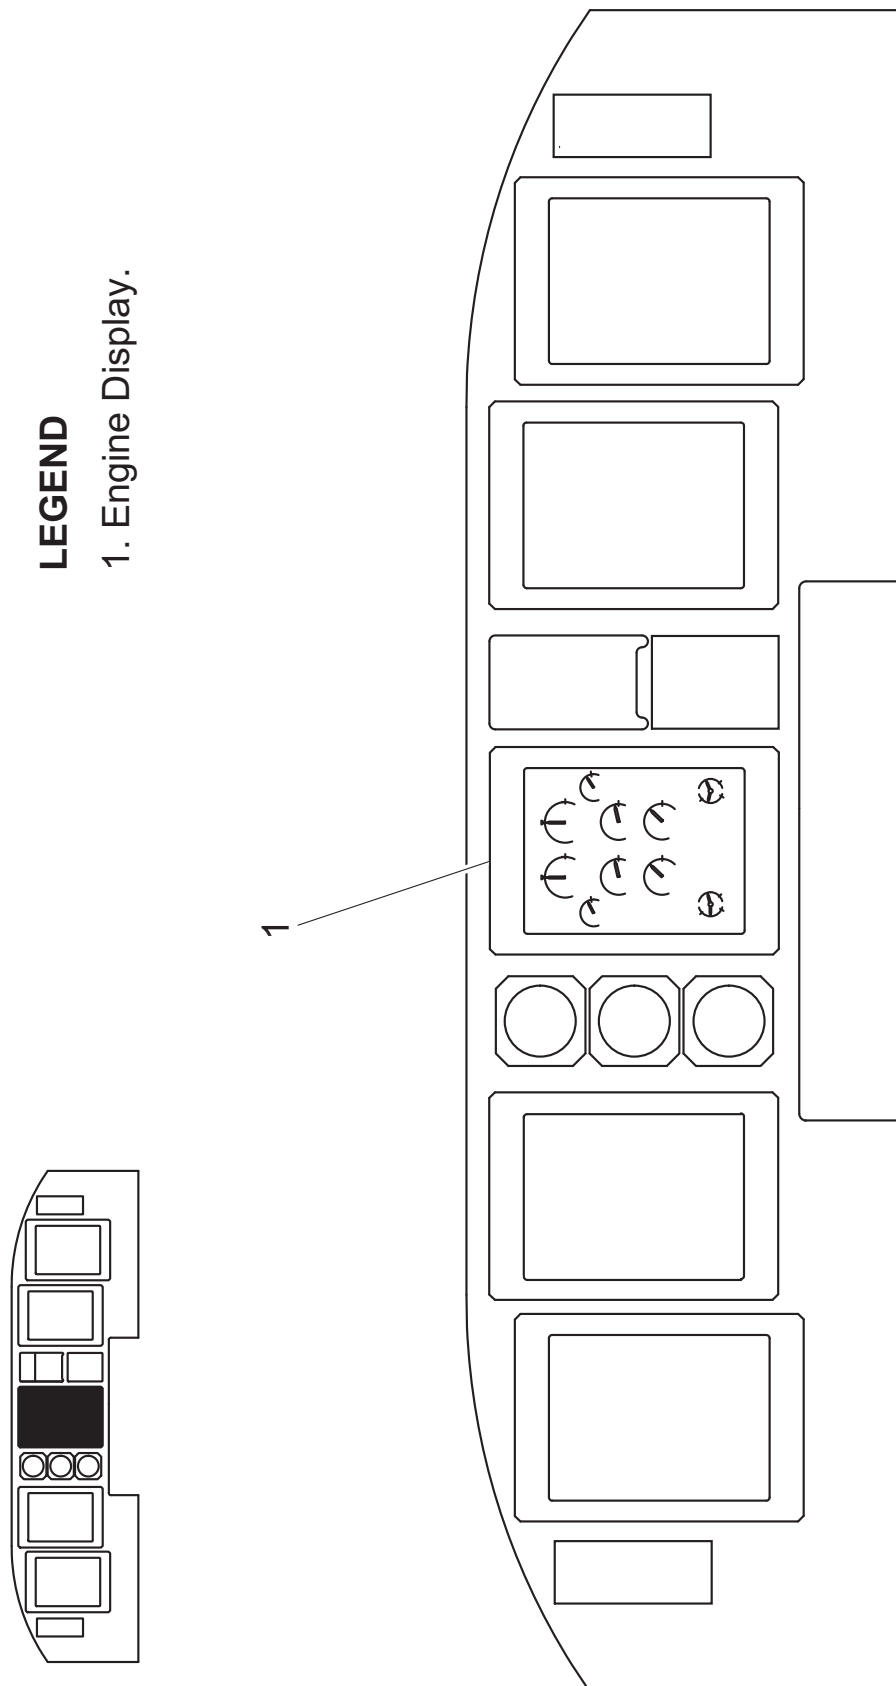

Figure 12.23-2 ED Location
Engine operating information from the FADEC is transmitted to the Engine Display (ED) (Figure 12.23-2). The gauges provide indications in both analog and digital form, and include the following: